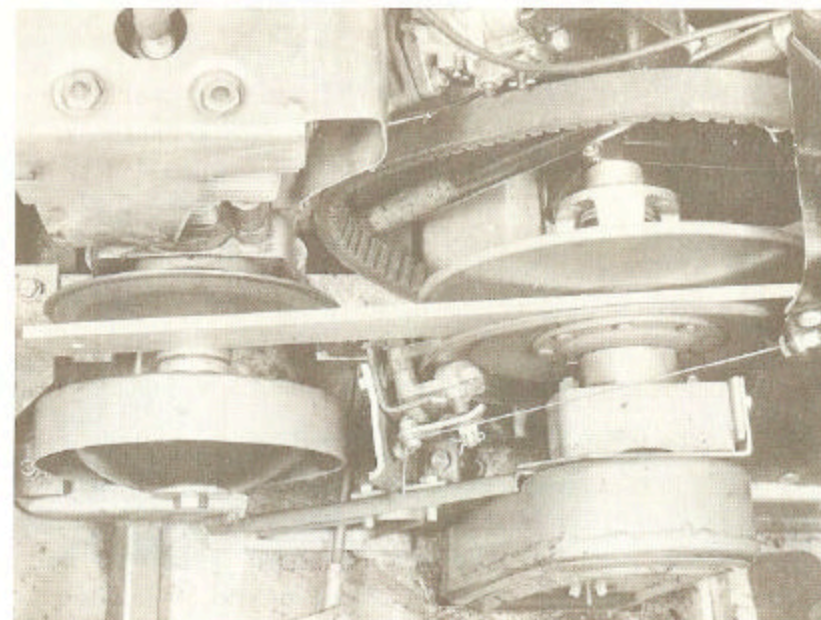

Fig. 8 — Checking Alignment of Fixed Faces
3. Place the straight-edge ($9/16$ " on two cylinder or $7/16$ " on single cylinder engines) between the halves of the drive and driven pulleys. The straight-edge should be flat against each fixed face. See Fig. 8. If it is not, add or remove shims from behind the fixed face of the driven pulley. (Should be performed by Dealer Servicemen.) After the adjustments are completed, prop up the rear of the machine, replace the drive belt and observe its movement while operating the engine at moderate speed. If the belt does not run straight, then repeat the adjustments.